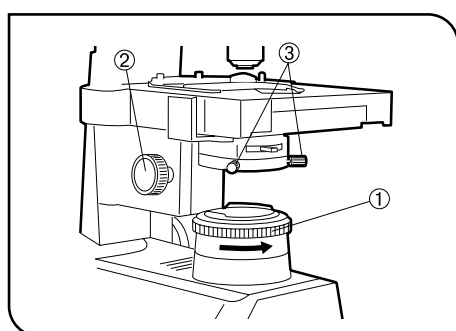

Fig. 15
1 Centering the Field Iris Diaphragm (Figs. 15 & 16)
1. With the 10X objective engaged and the specimen brought into focus, turn the field iris diaphragm ring ① counterclockwise to stop down the diaphragm to near its minimum size.
2. Turn the condenser height adjustment knob ② to bring the field iris diaphragm image into focus.
3. Rotate the two auxiliary lens centering knobs ③ to adjust so that the field iris diaphragm image is centered in the eyepiece field of view. (Figs. 15 & 16)